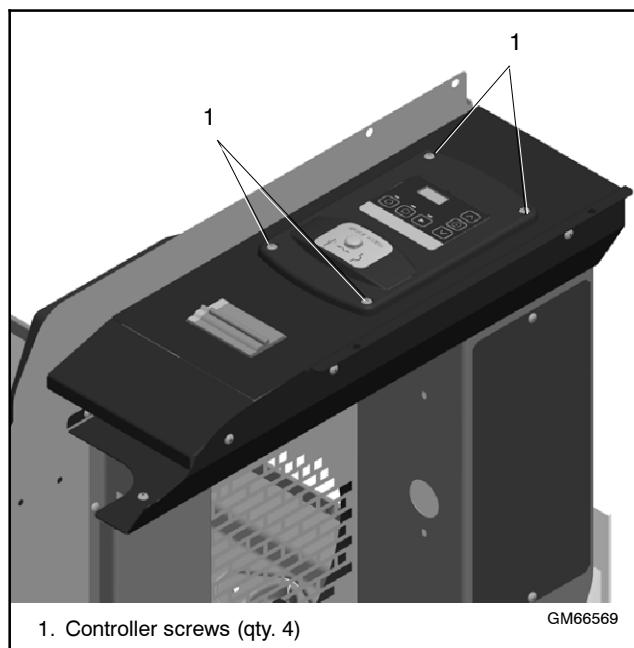

Figure 5 Controller Mounting Screws
11. Remove the four (4) screws securing the controller and *carefully* lift the controller. See Figure 5.